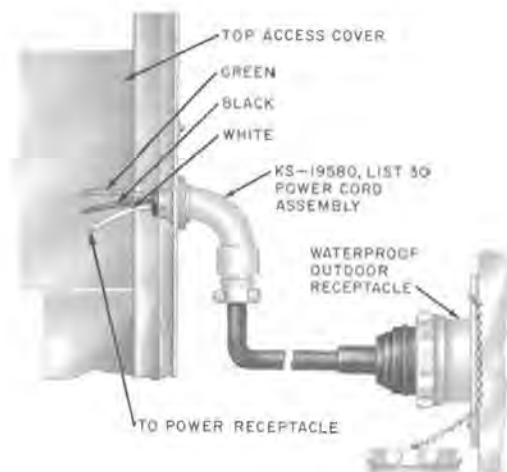

Fig. 22—KS-19580, List 30 Power Cord
- 3.15** Bring overhead power into an outdoor booth with a KS-19580, List 30 power cord assembly (Fig. 22).